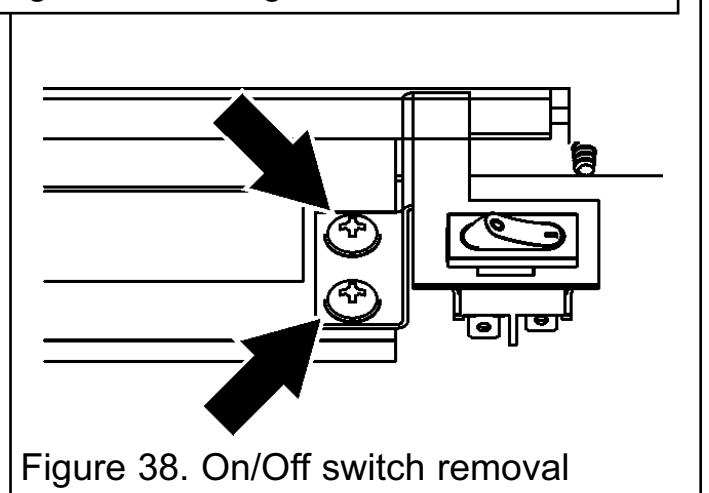

Figure 38. On/Off switch removal
9. Remove the two screws that hold the On/Off switch bracket to the front of the gas valve bracket (See figure 38).